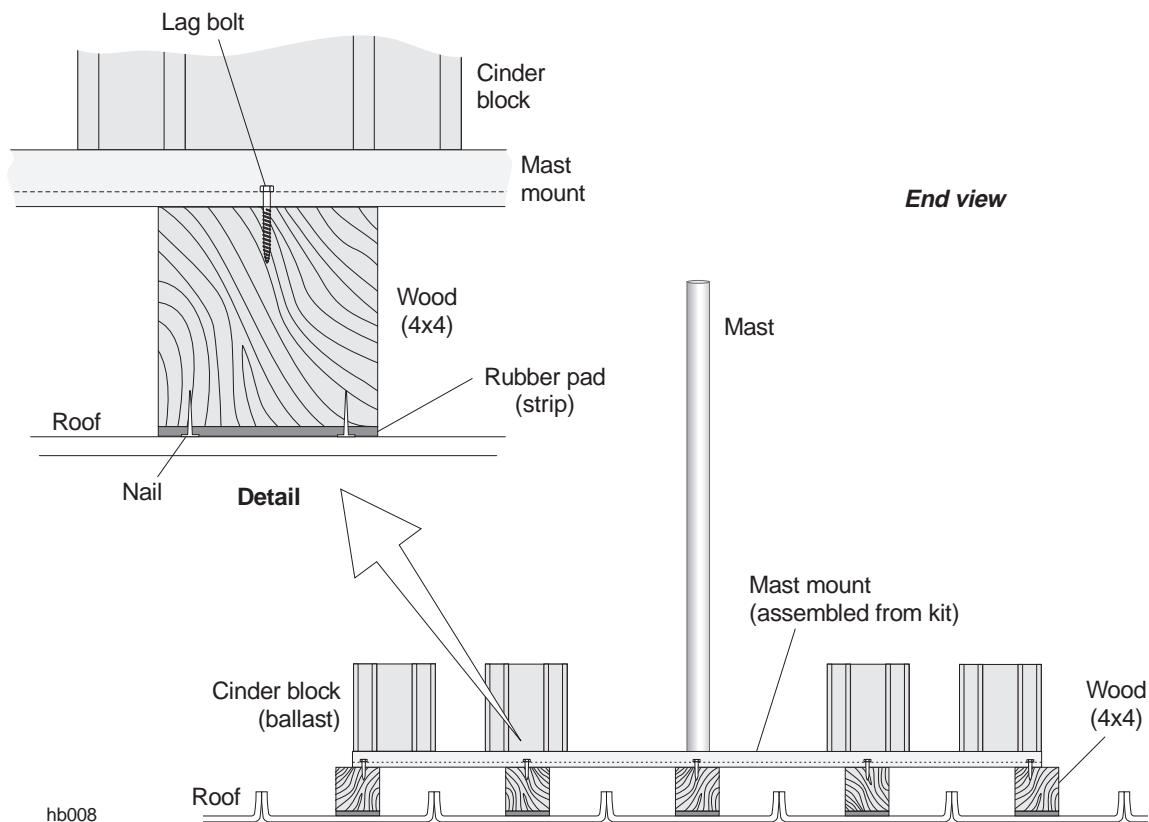

Figure 5-9 Supporting the mount on a corrugated aluminum roof
4. Use 5-penny shingle nails to nail one strip of rubber pad to one surface of each piece of lumber. See figure 5-9.
5. Lay out the 4 x 4s, as shown in figure 5-9, so that each piece is:
- Equally spaced to support the mast, mount braces and sides, and concrete blocks, as shown in figure 5-9.
Install the bolts through the holes in the mount's outer frame and into the wood. Use one bolt at each end of each piece of lumber (as shown in figure 5-9). Use one bolt at the center of each remaining side of the mount.